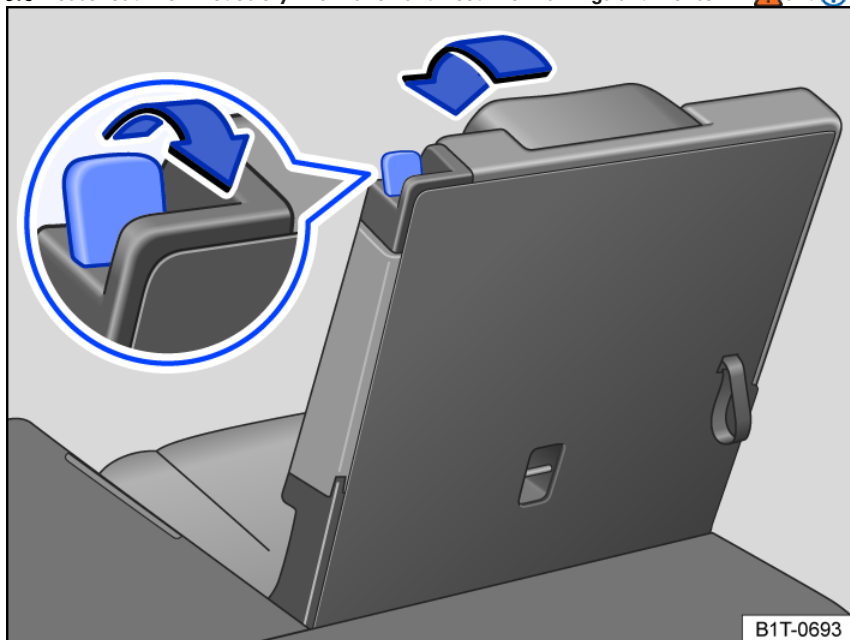

Fig. 84 Third row seat: folding the rear seat into the cargo floor position.
- Pull the release lever fig. 84 all the way back to release the rear seat backrest.
- The red marking on the release lever fig. 84 must not be visible.
- A red marking on the release lever fig. 84 indicates that the rear seat backrest is not latched. The red marking must not be visible when the backrest is latched.